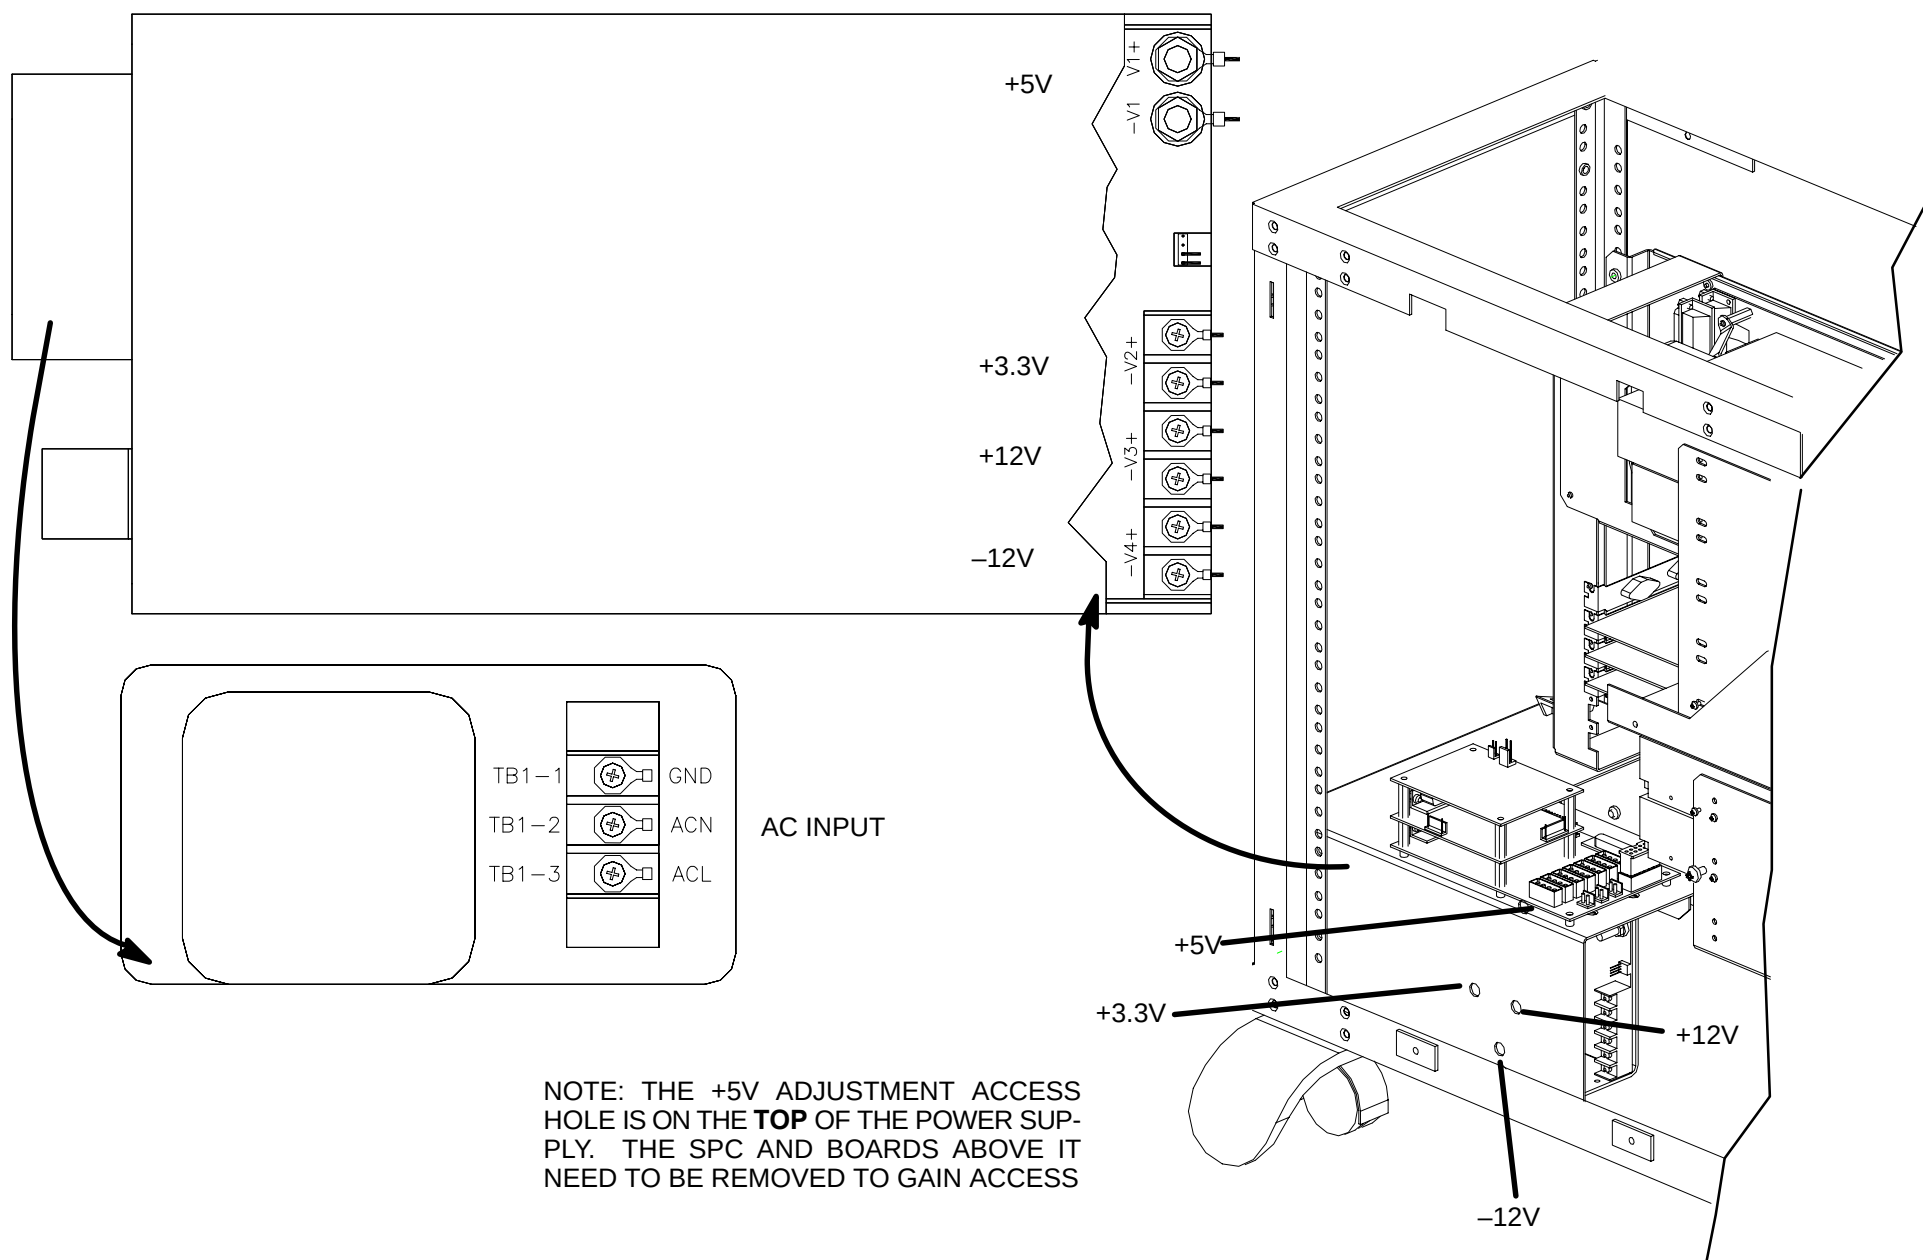

FIGURE 107 SYSTEM POWER SUPPLY – VOLTAGE TEST POINTS AND ADJUSTMENT LOCATIONS
3. Refer to Figure 107 and locate the power supply voltage check points and adjustment locations.